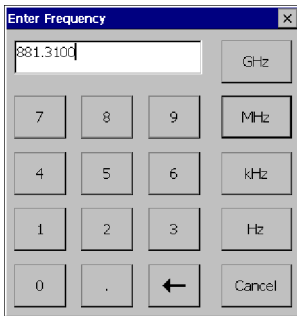

Figure 3-31: Entering the measurement frequency with the keypad
1. Tap the **Freq (MHz)** button. This displays the input keypad. See Figure 3-31.